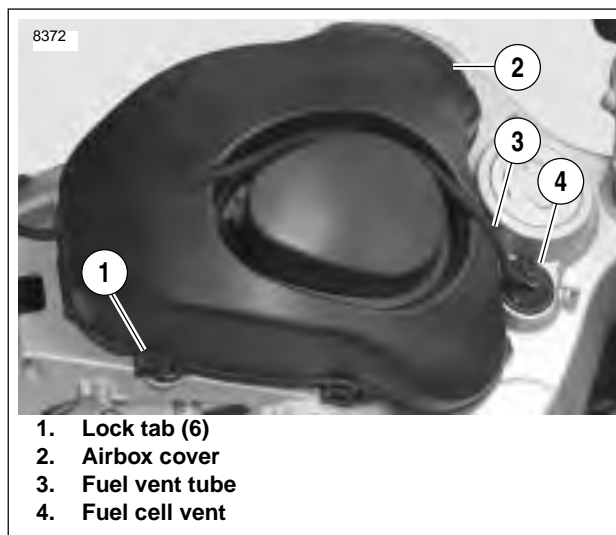
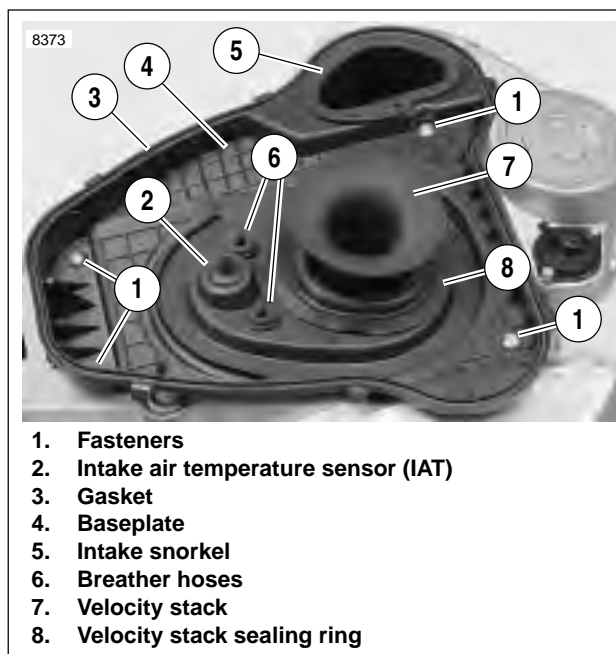

Figure 4-109. Airbox Cover
Figure 4-110. Baseplate
2. See Figure 4-109. Remove fuel vent tube (3) from fuel cell vent (4) and groove on top of airbox cover (2).
3. Unlatch six lock tabs (1) and remove airbox cover from baseplate.
5. See Figure 4-110. Remove air cleaner baseplate.
- a. Remove four fasteners (1) and raise baseplate (4).
- e. Lift baseplate off of frame, carefully disengaging baseplate from rubber sealing ring (8) on velocity stack (7).